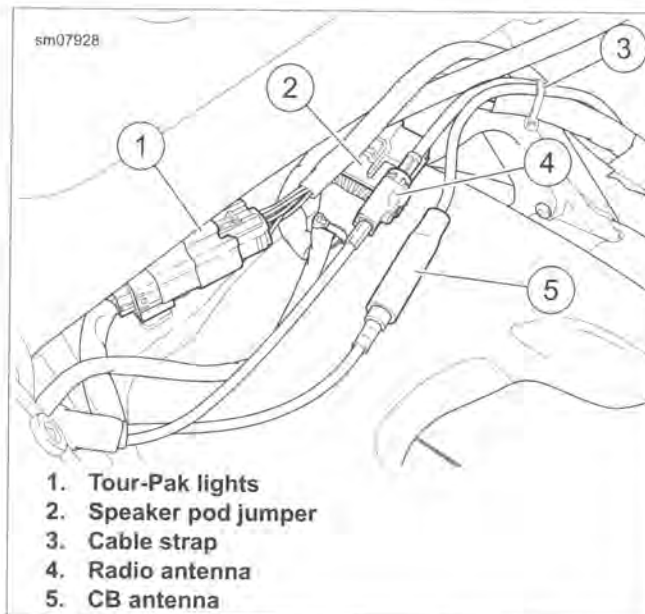

Figure 7-92. Tour-Pak Harness Connectors
5. See Figure 7-92. Disconnect antenna cable connector at rear fender.
6. Cut cable strap (3). Remove antenna cable.
3. See Figure 7-92. Mate antenna cable connectors at top of rear fender. Install cable strap (3).